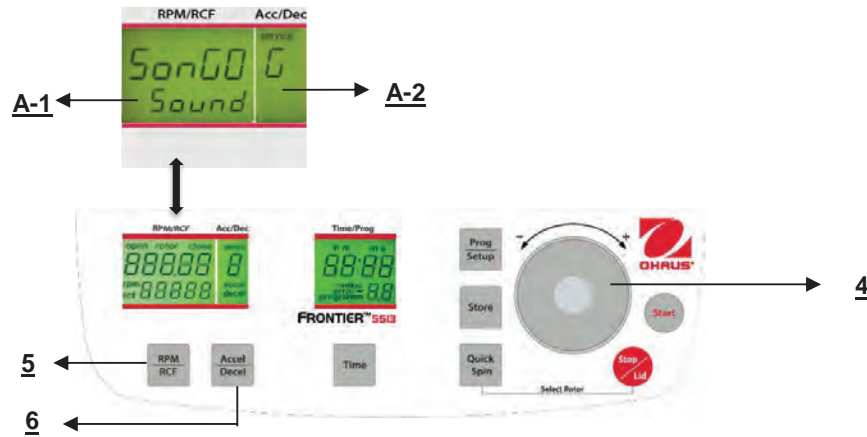

Figure. 32
Proceed as described under point 4.1.2 to enter this program mode and then press the key "**Accel/Decel**" (6). In the display "**Acc/Dec**" (A-2) the word "**Service**" flashes. Now select the letter "**G**" with the adjusting dial (4). As a result, in the display "**RPM/RCF**" (A-1), the word "**SonGo/Sound**" appears. After pressing the key "**RPM/RCF**" (5), you can select a song with the adjusting dial (4). (See figure 32).